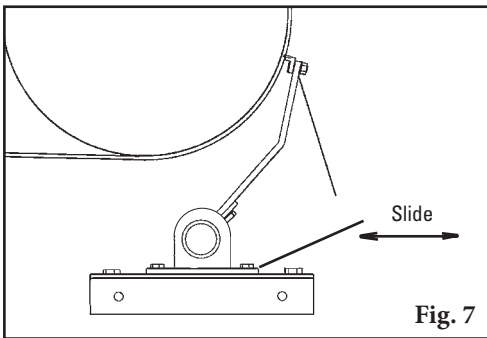

Fig. 7
9. **Position the pole.** Rotate pole upward to bring tips into contact with head pulley (Fig. 7). Center the tips across the belt. While applying light pressure on the center tip, shift loosened bearing mount until tips are contacting belt evenly across full width. Lock cleaner into this position by tightening bearing mount bolts.
7. **Position the pole.** Rotate pole upward to bring tips into contact with head pulley (Fig. 7). Center the tips across the belt. While applying light pressure on the center tip, shift loosened bearing mount until tips are contacting belt evenly across full width. Lock cleaner into this position by tightening bearing mount bolts.